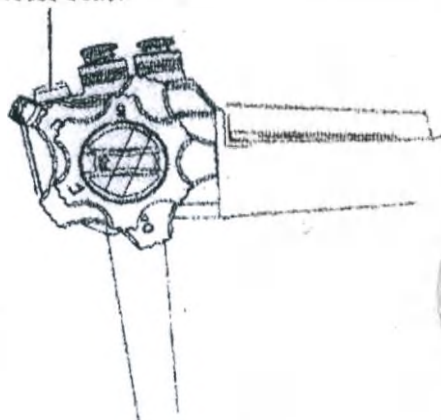

Fig.14.
1. Press the freeze frame button on the endoscope handle (see Fig. 14) to make a freeze frame.